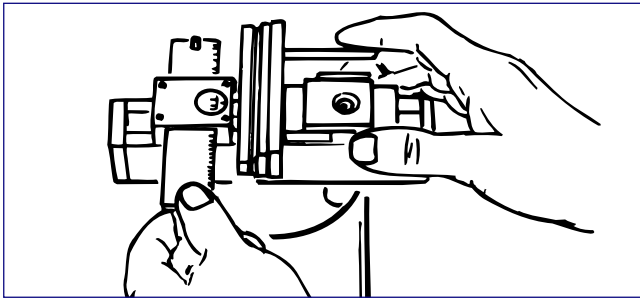

FIGURE 3-17, Main & Centering Guides
14. Place Alignment Guide in setting gage with graduated slide set at "0" (*see Figure 3-17*). Loosen Clamp Screw on alignment guide with hex key wrench and slide to Shoulder. Tighten Clamp and repeat procedure with second alignment guide.